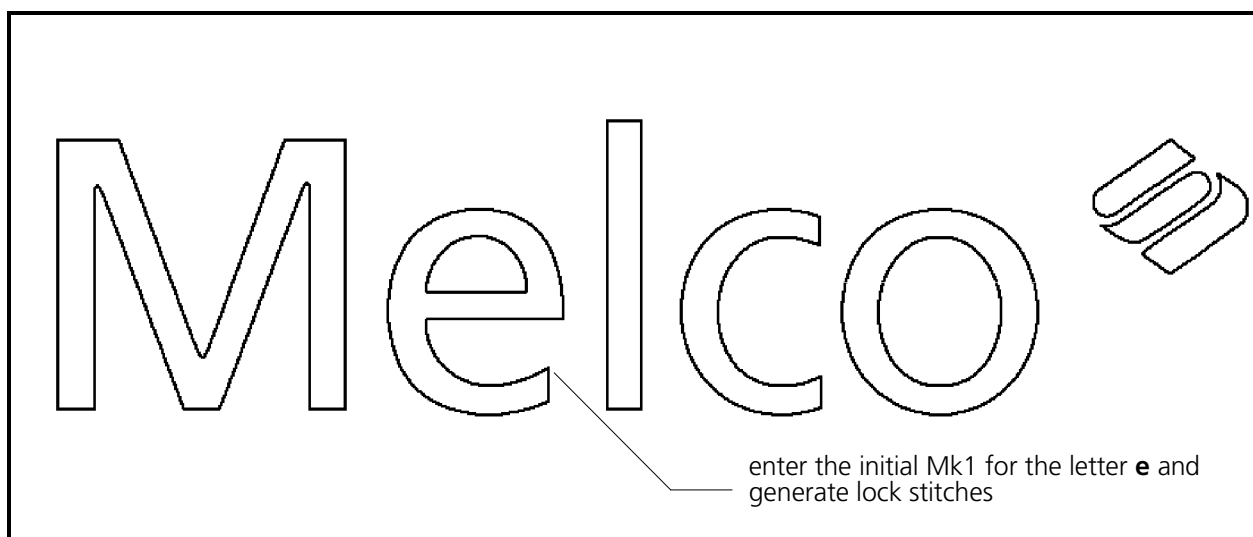

Figure 3-16
2. Now go to the letter **e** in the example design and enter a Mk1 at the upper right corner of the tail of the letter **e** (see Figure 3-16).